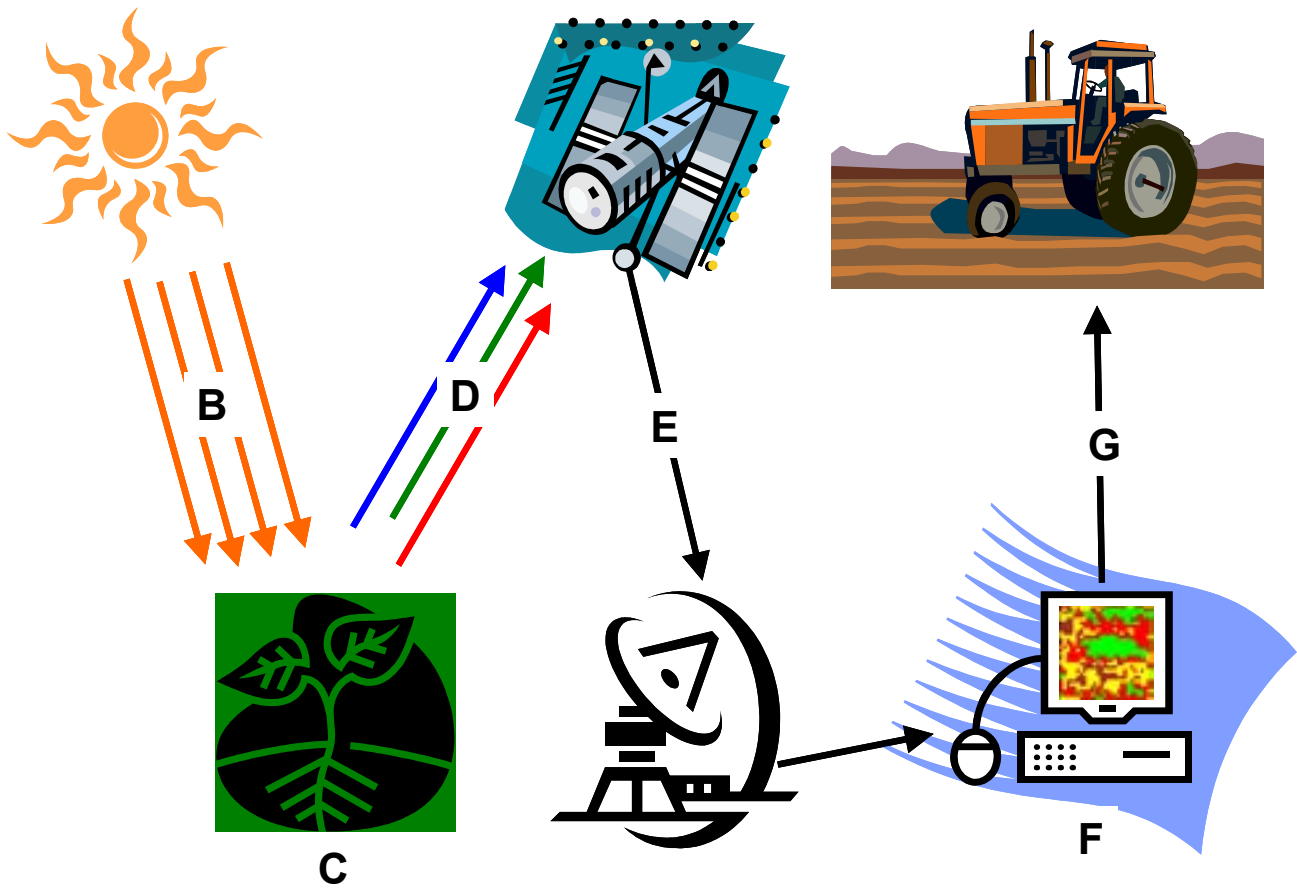

Figure 4. The remote sensing process.
**Figure 4** illustrates a satellite remote sensing process as applied to agricultural monitoring processes. The sun (A) emits electromagnetic energy (B) to plants (C). A portion of the electromagnetic energy is transmitted through the leaves. The sensor on the satellite detects the reflected energy (D). The data is then transmitted to the ground station (E). The data is analyzed (F) and displayed on field maps (G).